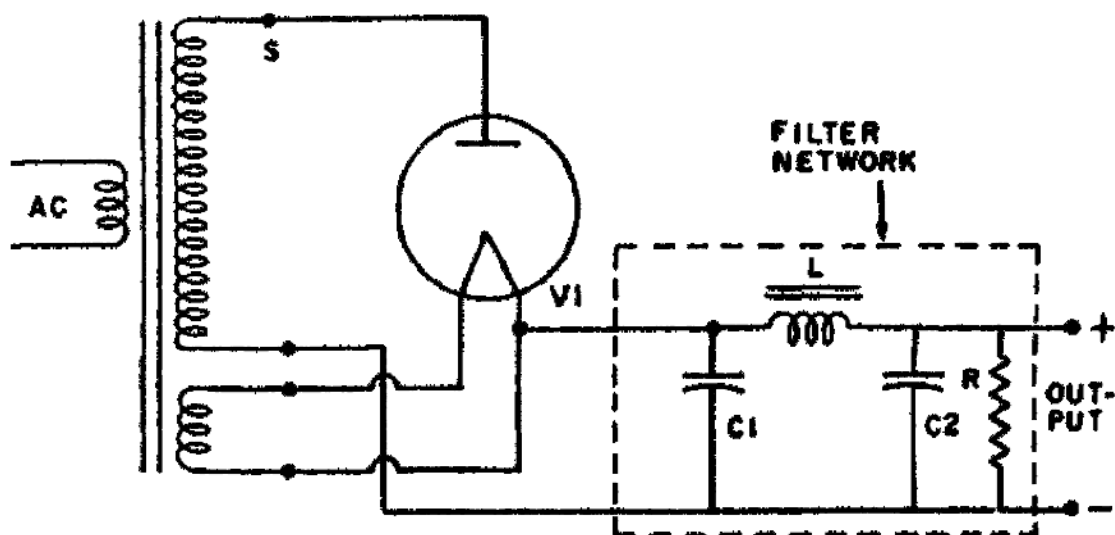

Figure 91. Filter network added to a half-wave rectifier.
13. Look at the complete electrical circuit of figure 91. Filtering is accomplished by connecting capacitors, choke coils (inductors), and resistors in the proper manner. If a filter circuit is added to the half-wave rectifier, a satisfactory degree of filtering can be obtained. Capacitors  $C_1$  and  $C_2$  have a small reactance at the a.c. frequency, and they are connected across the load resistor,  $R$ . These capacitors will become charged during the positive half-cycles as voltage is applied across the load resistor. The capacitors will discharge through  $R$  and  $L$  during the negative half-cycles, when the tube is not conducting, thus tending to smooth out, or filter out, the